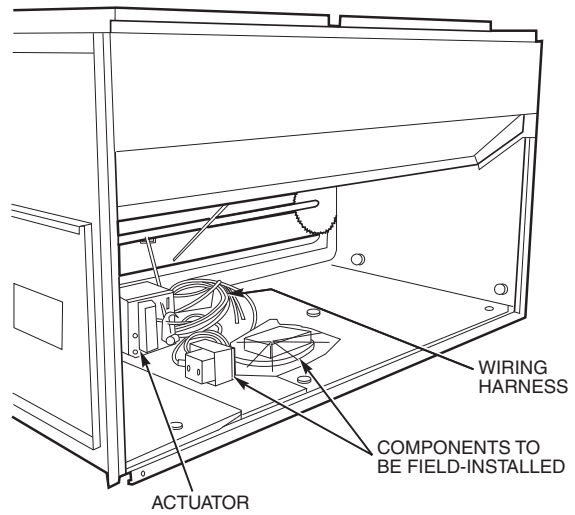

Fig. 7 — Economizer Interior
1. Remove the economizer control access panel and locate the actuator wiring harness (on 25 and 30 ton units, the master actuator wiring harness). See Fig. 7 and 8.